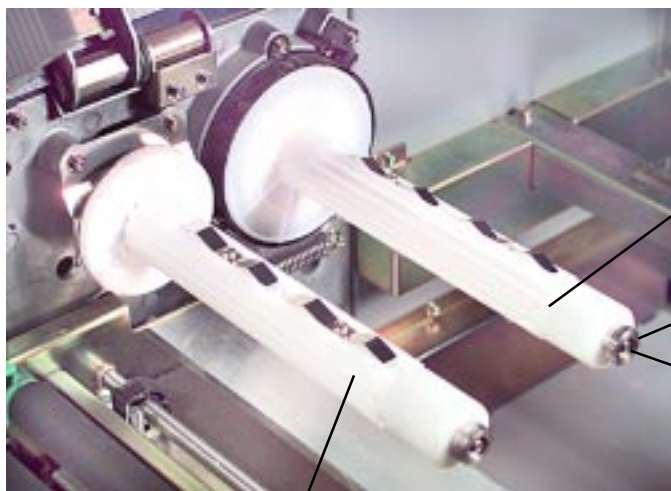

Fig. 2
3.	Attach string to an empty ribbon core and place on the Ribbon Unwind Spindle. Wind the string tightly around the ribbon core in a single layer and in a clockwise direction. Attach the free end of the string to the tension gauge. Fig. 2 & 3
4.	Gradually lift the tension gauge, pulling the string to unwind it from the core. Once the spindle begins to move, the gauge should indicate 450 to 550 grams of tension. Excessive or insufficient tension must be corrected by adjusting the Ribbon Unwind Clutch. Fig. 2 & 3
3.	Attach string to an empty ribbon core and place on the Ribbon Rewind Spindle. Wind the string tightly around the ribbon core in a single layer and in a clockwise direction. Attach the free end of the string to the tension gauge. Fig. 2 & 4
4.	Gradually lift the tension gauge, pulling the string to unwind it from the core. Once the spindle begins to move the gauge should indicate 950 to 1050 grams of tension. Excessive or insufficient tension must be corrected by adjusting the ribbon unwind clutch. Fig. 2 & 4